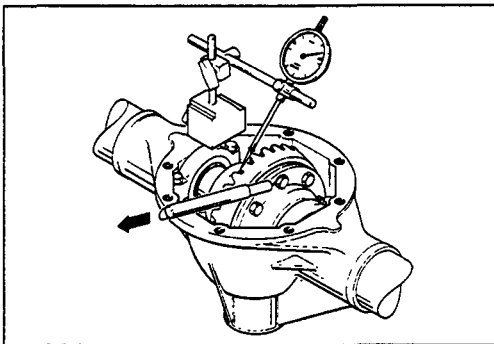

Figure 23
3. Attach a spring scale to one of the ring gear bolts and gently pull on the scale so as to rotate the ring gear **in the same direction** as that in which the bearings were settled in item 1. The spring scale must also pull in a tangential direction. (Fig. 23).